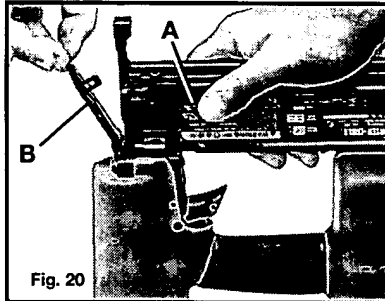

Fig. 20
3. Depress the quick release latch (A) Fig. 20 and open the fastener guide plate (B) Fig. 20.
5. Depress the quick release latch (A) Fig. 20, close the fastener guide plate (B), and release the latch (A).